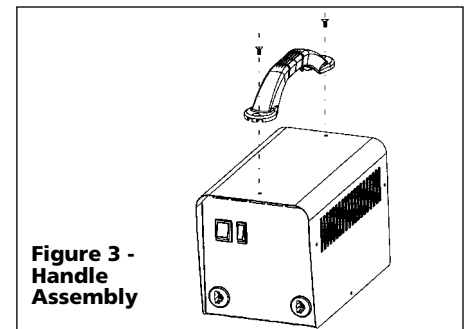

Figure 3 - Handle Assembly
1. Align the end holes on the handle with the holes on top of the welder, then secure with screws (Figure 3).